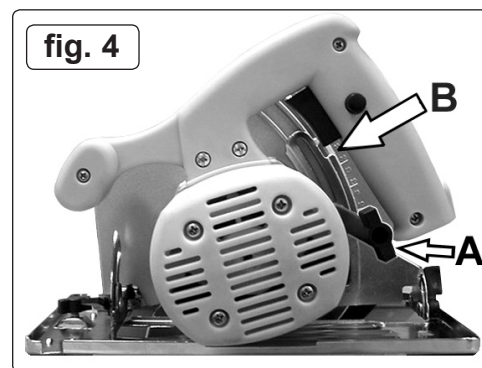
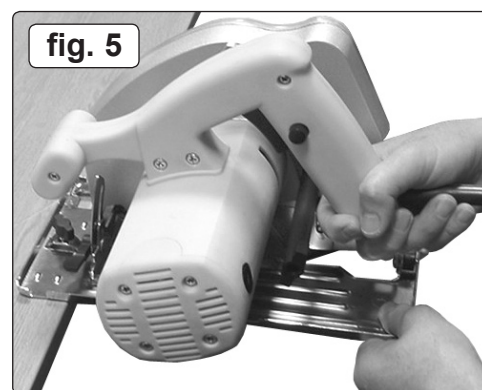

fig. 4
fig. 5
- 3.2.4 To adjust the depth of cut take hold of the main handle of the saw and rest the front edge of the saw base onto the workpiece so that the blade and blade guard overhang the edge as shown in fig.5. (Do not allow the blade guard to operate)
- 3.2.5 Keeping hold of the main handle loosen the depth of cut adjustment knob (see fig.4-A). Hold the base of the saw still as in fig.5 and move the whole saw unit up or down through the fixed quadrant until the blade protrudes below the saw base by the desired amount.
- 3.2.6 The depth of cut can be set by using the scale marked on the side of the aluminium blade housing. The scale is marked from 0 to 65mm depth in increments of 5mm. The markings on the housing should be aligned with the step on the fixed quadrant where its width changes from broad to narrow. (See fig.4-B)